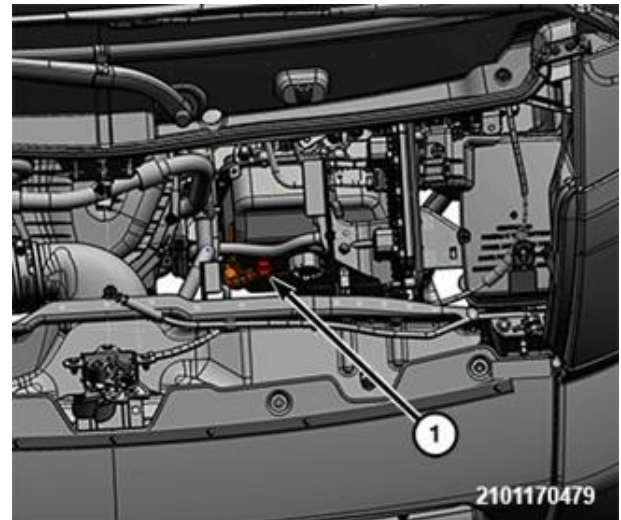

**Figure 5 – Dipstick Tube Cap**
6. Remove the dipstick tube cap (1) (Figure 5).